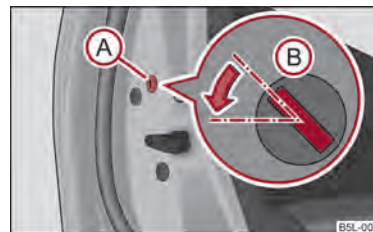

Fig. 14 Rear door: Emergency locking of the door
- Remove the panel A ⇒ fig. 14.